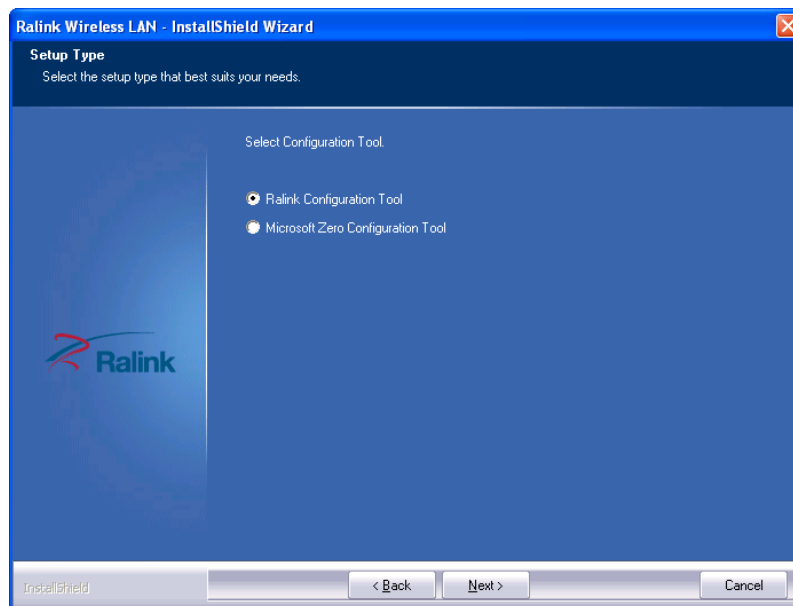

Figure 8-33: Configuration Tool
Step 7: The **Configuration Tool** screen in **Figure 8-33** appears.